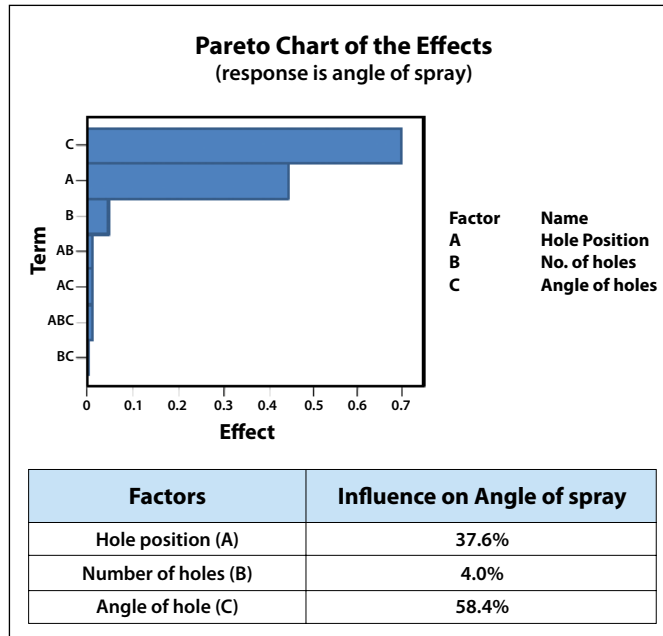

Fig. 3. Pareto chart for angle of spray showing that the number of holes plays a far lower role in the overall device's angle of spray than other factors.
In addition, we then prepared a Pareto chart to study the angle of spray (Fig. 3). It provides a different view of the information,
Fig. 3. Distribution of the magnetic field (arrows) generated around the μ MS coil as predicted by the 3D FEM simulations. The size of the arrow is directly proportional to the magnitude of the magnetic field (A/m) in each (x, y, z) point of space uniformly sampled in $7 \times 7 \times 7$ locations. The colormap represents the electric potential (V).